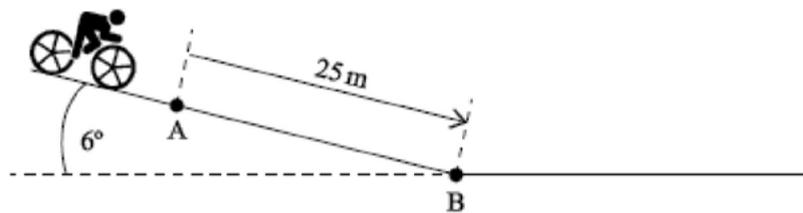

Fig. 7
- 6 Fig. 7 shows a cyclist travelling down a slope on a smooth road inclined at 6° to the horizontal. The combined mass of the cyclist and bike is 80 kg.